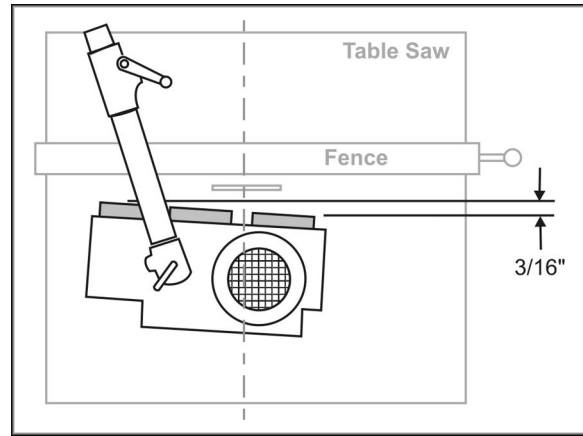

Figure 18
1. Position the Stock Feeder so that the axis of the saw blade lines up between the center roller and infeed roller. See Figure 18. This will allow the Stock Feeder to grip the offcut of the workpiece as it leaves the blade.
2. Rotate the Stock Feeder so that the direction of feed is angled slightly toward the fence by approximately $3/16''$ (5mm); that is, the outfeed roller should be slightly closer to the fence than the infeed roller. See Figure 18.